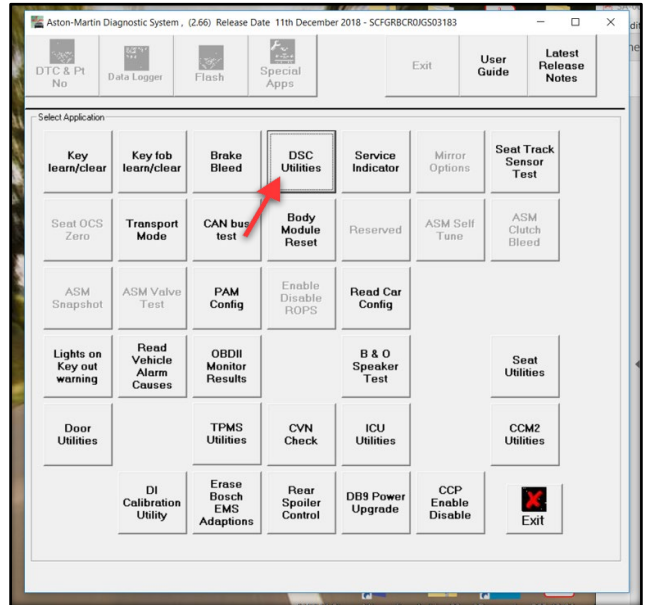

Figure 13
20. Click "DSC Utilities" (refer to Figure 13).